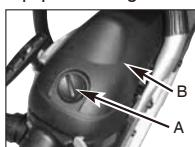

Fig. 18A
2. Remove knob (A) holding air filter cover in place, remove the top cover (B) by loosening the cover retaining screws. Cover will lift off. (Fig. 18A)